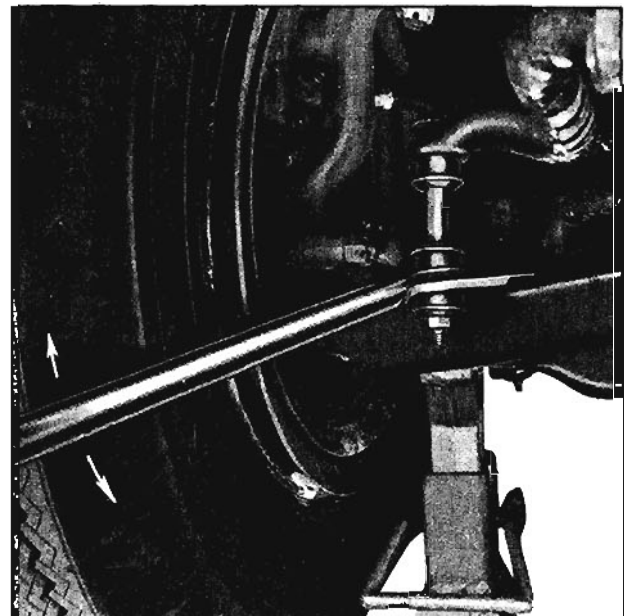

Fig. 9-11 Pry Bar Installation
3. Place a pry bar between the lower control arm and the plain arm. (Fig. 9-11)